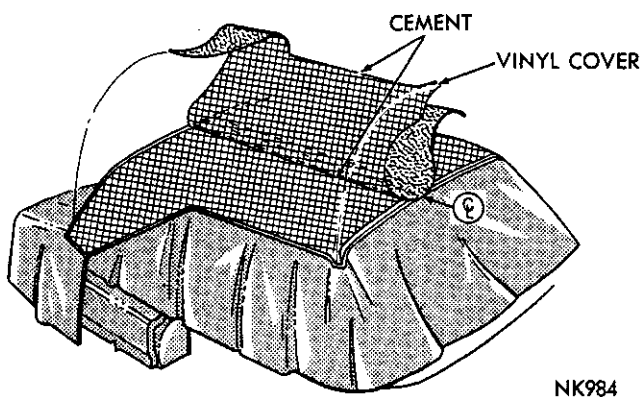
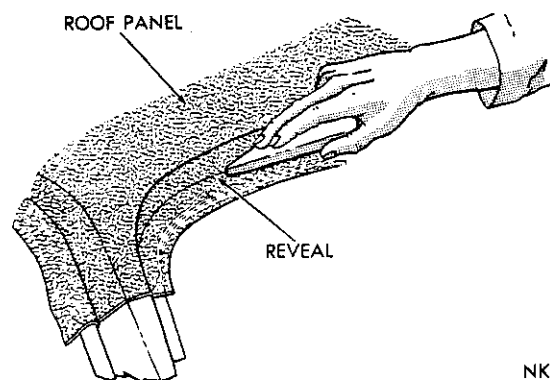

Fig. 2—Positioning Cover on Roof—Sedan
Fig. 4—Positioning Cover in Window Reveals
(3) Apply a thin film of cement to center four inches of roof panel and vinyl cover.
(4) When cement becomes tacky, position cover on roof aligning centerline marks.
(5) Apply cement to one half of roof panel and extension and to the cover half on same side (Figs. 2 and 3).
(6) When the cement becomes tacky position cover on roof panel.
(7) Repeat steps 5 and 6 for the opposite side.
(8) Using a new paint roller, pressurize cover to the roof working from center area toward drain troughs.
(9) Press cover into windshield and rear window reveals using a dull pointed fibre tool (Fig. 4).
(10) Starting at top center, secure cover to windshield reveal using staples spaced 1-1/2 inches apart.